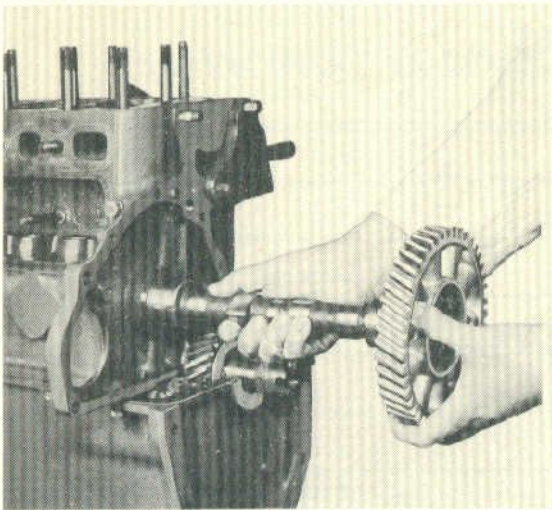

Fig. 8
- Step 7—Pull the camshaft out of the block as shown in Figure 8.